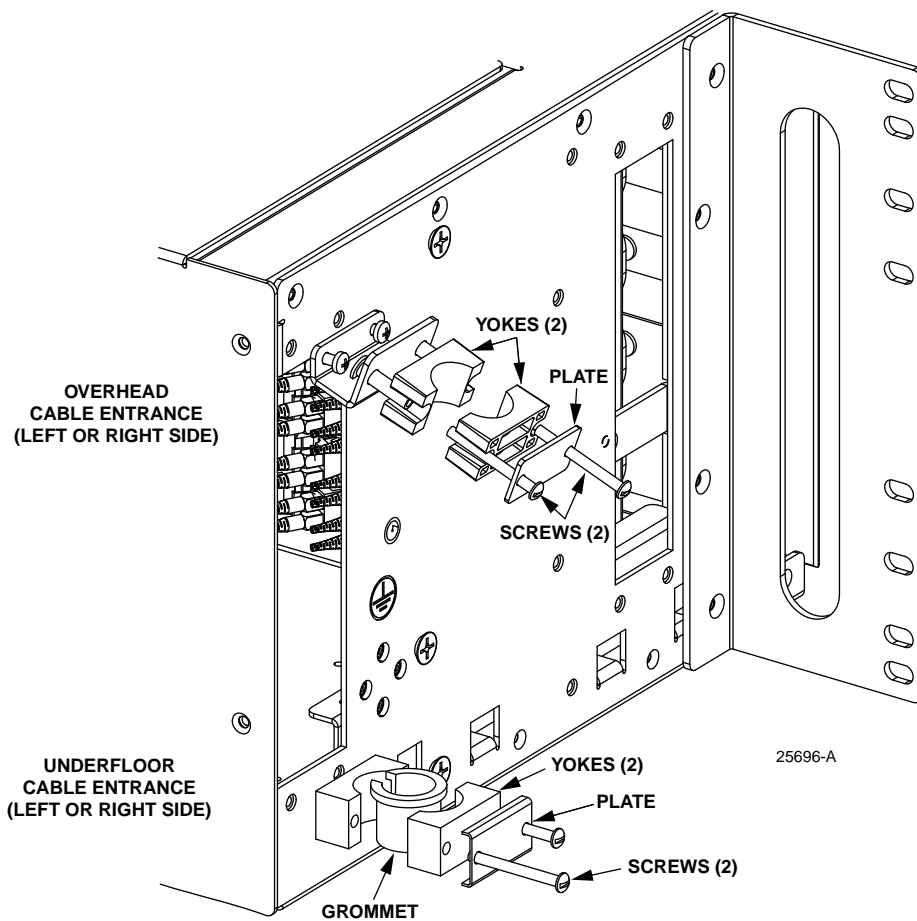
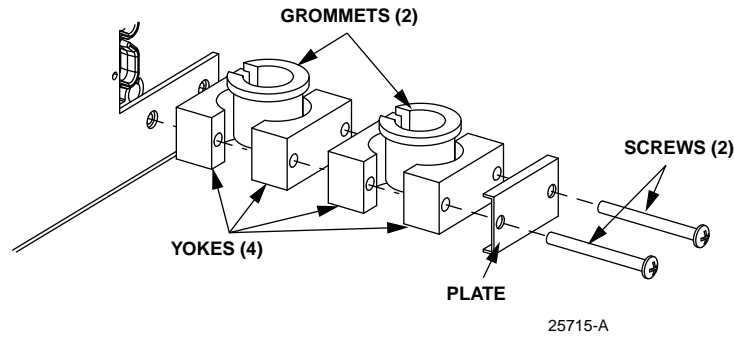

Figure 16. Cable Clamp Assembly
Figure 17. Stacked Cable Clamps
Cables may enter the panel from the rear left or rear right side in either a top or bottom location as shown in multiple places in this manual. Two cable clamps are provided. Often only one cable clamp is used. The provided clamp, shown exploded in Figure 16, accommodates cables with an outer diameter of 0.4 to 0.8 inches (1.02 to 2.03 cm). A larger clamp is available from TE for cables with an outer diameter of 0.8 to 1.2 inches (2.03 to 3.05 cm). Cable clamps of an appropriate size are provided with TE IFC cables. Additional clamps can be ordered as accessories.
► **Note:** When two cables enter from the same location, two cable clamp assemblies can be stacked as shown in Figure 17.
3. Install the cable clamp as shown in Figure 16 (or Figure 17 if stacked).